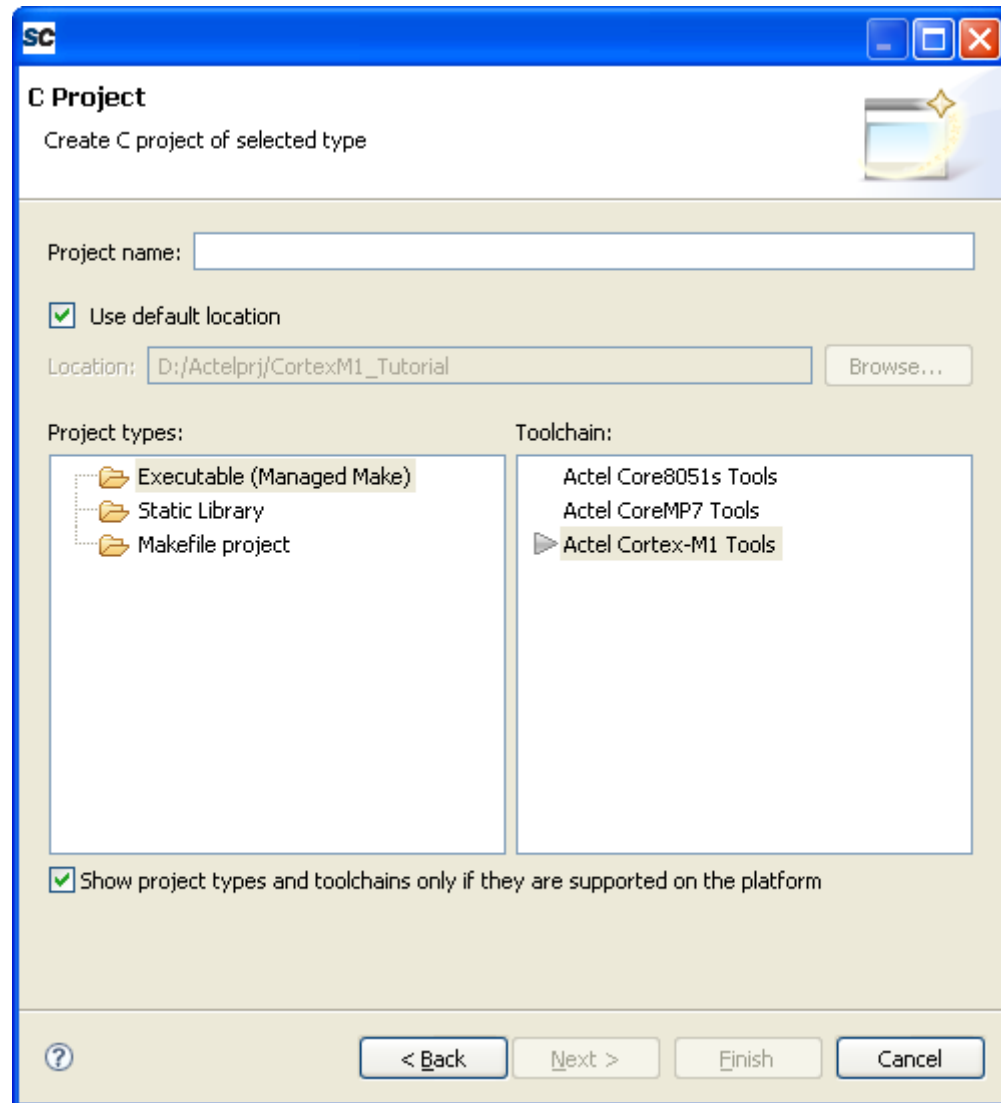

Figure 2-2 • C Project Window
4. Select **C Project** and click **Next**. The C Project window appears (Figure 2-2).